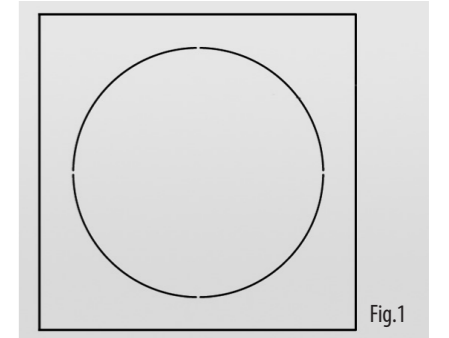
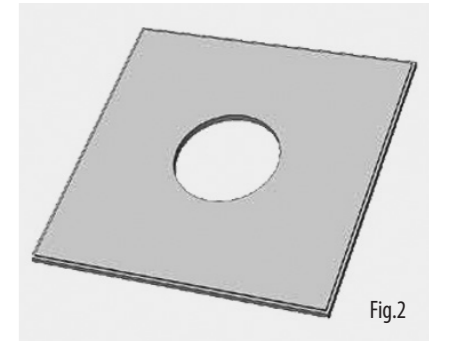
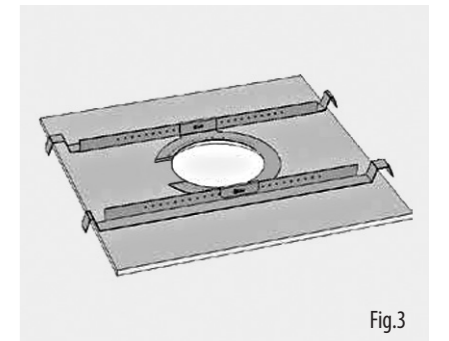

Fig.1
Fig.2
Fig.3
1. Remove the ceiling tile from its frame and place it on a flat surface. Mark the cut-out area on the ceiling tile by tracing around the template provided. (Fig.1)
2. Cut out the hole in the ceiling tile using a circular saw or pad saw (Fig.2). Place the C-ring and tile-bridge on top of the ceiling panel, aligning the C-ring over the hole, and screw the C-ring to the tile bridge using the fixings provided. (Fig.3)
1. Mark the cut-out area on the ceiling by tracing around the template provided. (Fig.1)
2. Cut out the hole in the ceiling using a pad saw, then slide the C-Ring into the ceiling, aligning it over the cut-out hole. (Fig.2)
If using a power driver, Tannoy recommends a torque setting of 1.5 Nm. (Fig.3)
1. Nail or screw the plaster ring to the joists. (Fig.1)
3. Cut out the hole in the ceiling using a pad saw. (Fig.2)
2. The speakers come with a standard speaker cable clamp (Fig.1), and an optional gland for EN5424 applications (Fig.2). (Please note that EN5424 does not cover the CVS 801S and CVS801SLZ subwoofers.)
3. Feed the cable through and attach to the Euro-type connector (Fig.3).
4. For connection to an amplifier, use Pins 1 and 2 (Figs.3, 4, 5):
- Corte el orificio en la loseta del techo con una sierra circular o una sierra circular (Fig.2). Coloque el anillo en C y el puente de baldosas en la parte superior del panel del techo, alineando el anillo en C sobre el orificio y atornille el anillo en C al puente de baldosas con las fijaciones proporcionadas. (Fig. 3)
Si utiliza un controlador motorizado, Tannoy recomienda un par de apriete de 1,5 Nm. (Fig. 3)